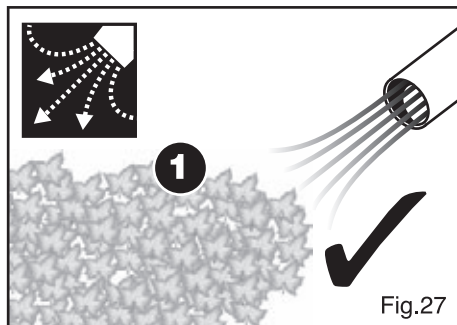

Fig.27
9.6 USING THE BLOWER/VAC – FIGS. 27 – 29
Blower Operation – Figs. 27 – 28